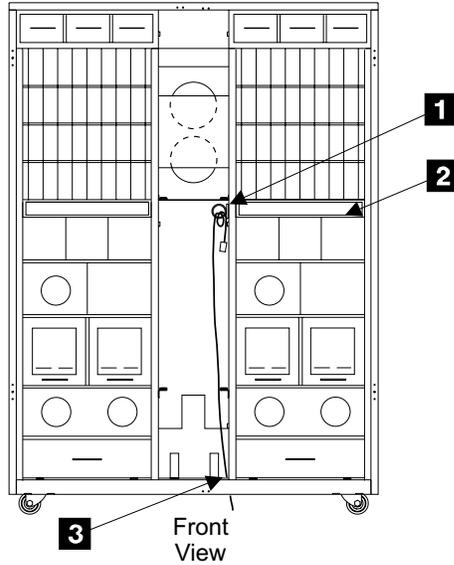

Figure 241. Service Terminal Utility Power Cord Routing (S007634m)
- b. Route the convenience outlet power cord through the center tailgate **3** [Figure 241].
- c. Route the convenience outlet power cord up the center of the 2105 Model Exx/Fxx and loop it twice through the cable retainer **1** [Figure 241]. Allow enough cable so the connector can reach the service terminal table **2**.
- ___ 5. Connect the service terminal AC adapter to the utility power cord, **1** [Figure 241].